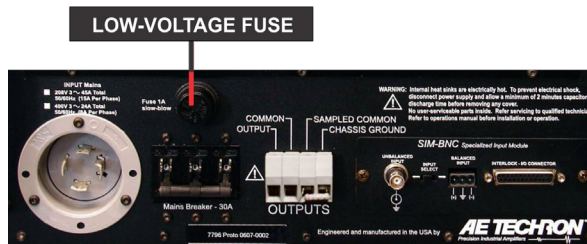

Figure 5.2 – DSR 100-200 Amplifier Module's Low-voltage Fuse Location
**DSR 100-400 only:** Check the fuse F1 on each amplifier module. Locate the fuse cover on the amplifier back panel and turn the cover counter-clockwise to remove. Remove the fuse, inspect, and replace if needed with 1A slow blow fuse. See **Figure 5.2**